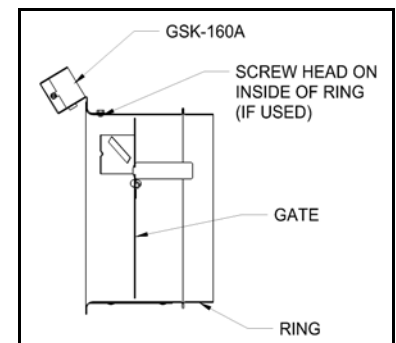

Figure 2
1. Mount the switch with the supplied #5-40 machine screw and nut on the top front of the MG1. (Note, the head of the screw is to be on the inside of the ring. (See Figure 2))